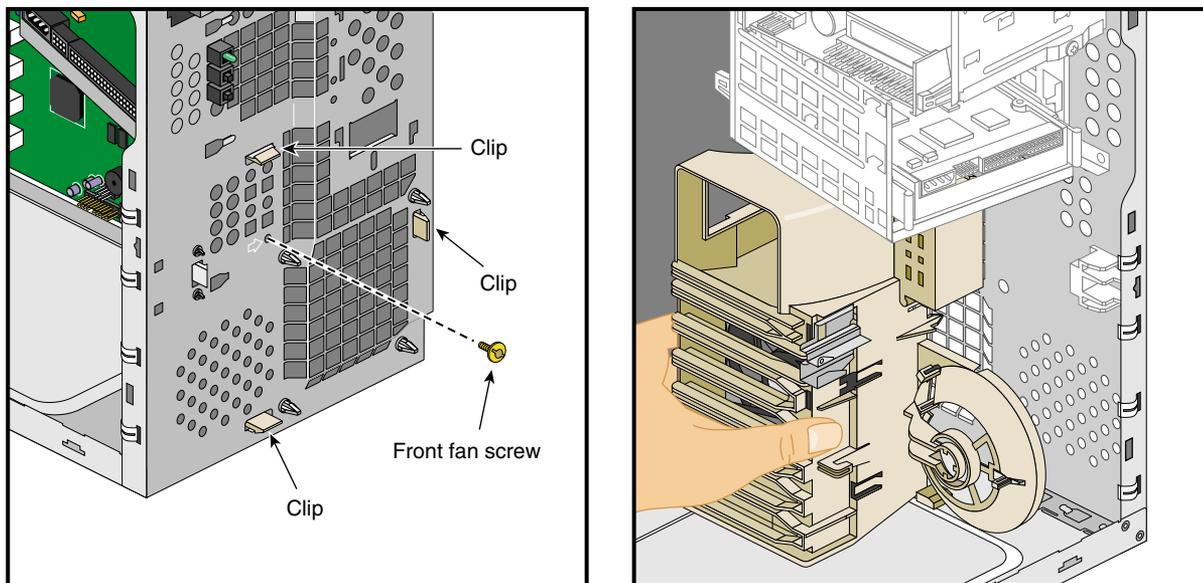

Figure 2-14 Removing Front Fan Screw and Releasing Clips
3. Remove the front fan screw located on the front panel. Figure 2-14 shows the location of the screw.
4. Release the three retaining clips shown in Figure 2-14 by pushing on one clip at a time while holding the fan plastic frame inside the chassis.